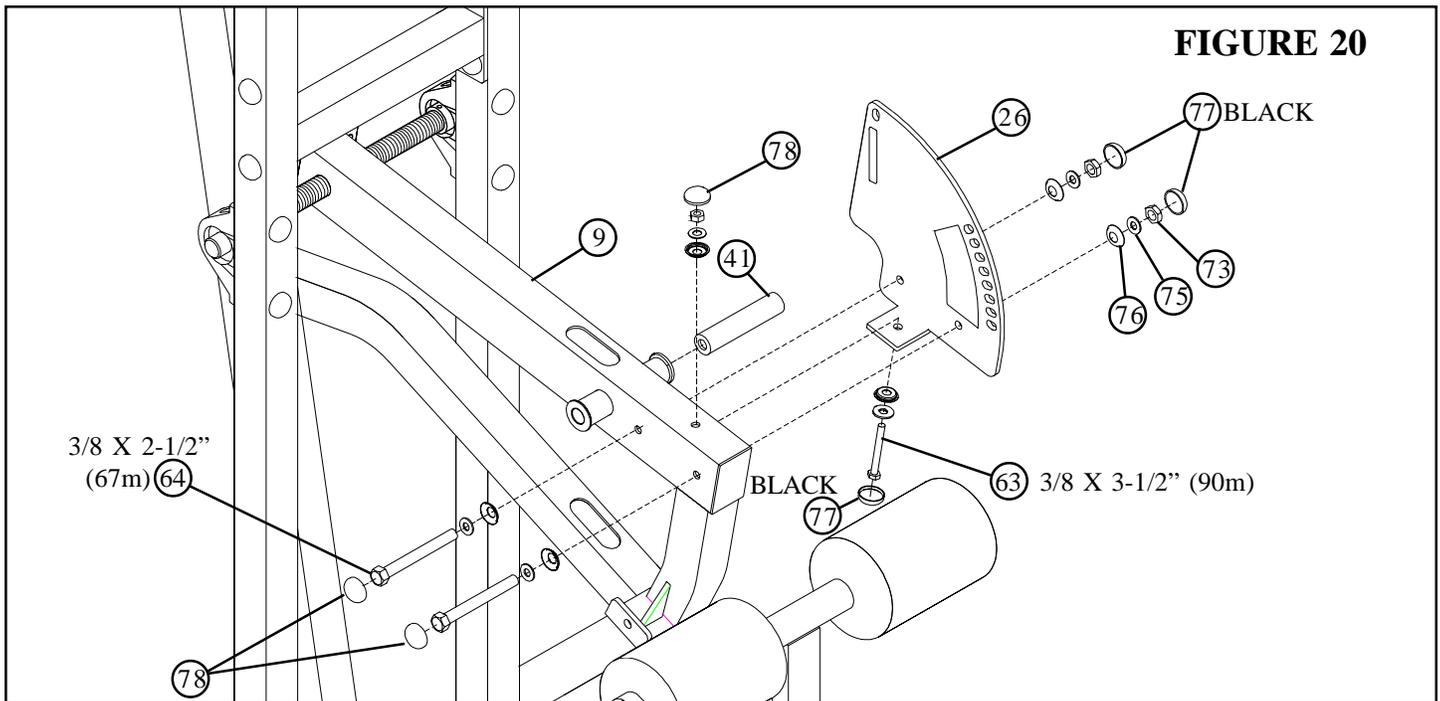

**FIGURE 19**
- **SECURELY** assemble the PILLOW BLOCKS (37) on the PIVOT ARM (9) to the LEFT and RIGHT BOOM SUPPORTS (3 & 4) using four 3/8 X 3" BUTTON HEAD BOLTS (72), four BLACK 3/8" SAE WASHERS (74), four RH WASHERS (76), four 3/8" SAE WASHERS (75), four 3/8" LOW HEIGHT LOCK NUTS (73) and four RH CAPS (78) as shown in FIGURE 19.
- **IMPORTANT!** When PIVOT ARM (9) is centered and level in the PILLOW BLOCKS (37), tighten the PILLOW BLOCK set screws.
- Slide two 1-3/8" OD COVER CAPS (35) over the ends of the shaft on the PIVOT ARM (9) as shown in FIGURE 19.